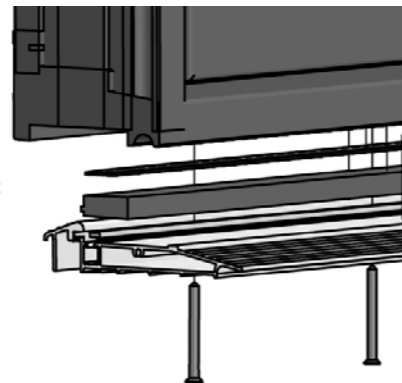

Figure 2
- a** Place the sill infill bar on to the sill with double sided tape on the top face; see figure 2.